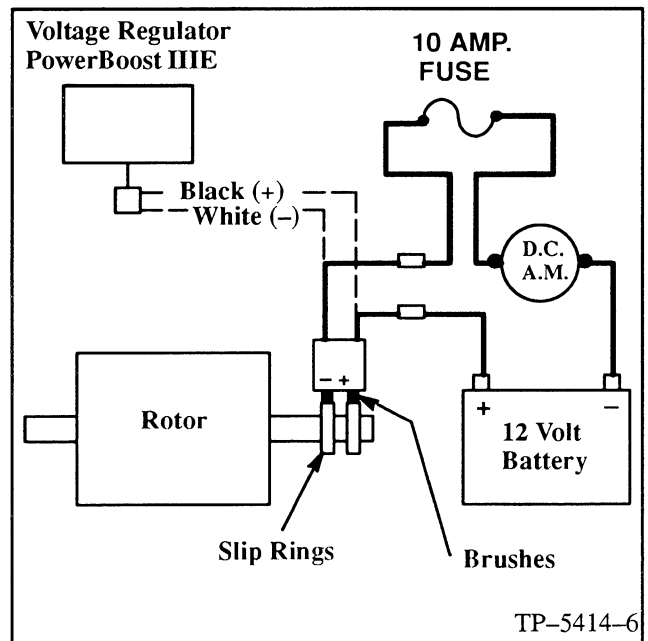

Figure 7-2. Separate Excitation Connections (PowerBoost III E)
2. Connect an ammeter and a 12-Volt automotive battery to the positive (+) and negative (-) brush leads. Include a 10 Amp. fuse to protect the circuit in case of a shorted rotor refer to Figure 7-2. Note and record the ammeter reading.